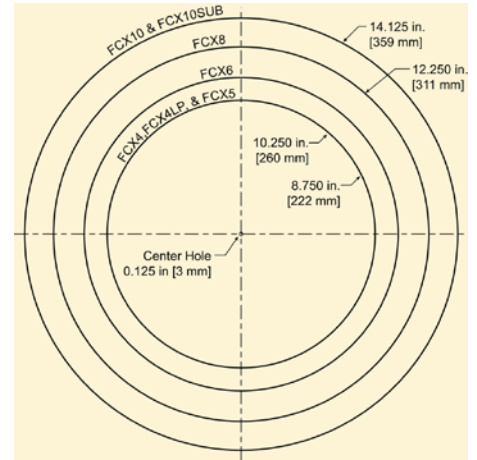

Figure 7. Cutout template dimensions
1. Mark the hole location on the ceiling tiles and, using the cutout template provided with your D SERIES loudspeakers, cut a hole to the precise size (Figure 7).